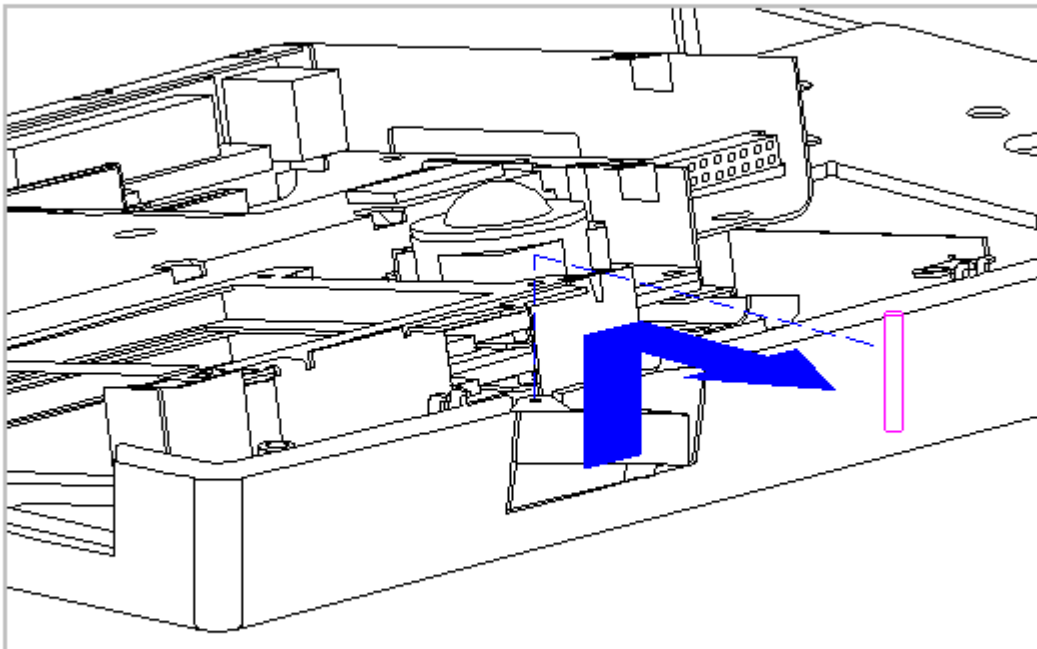

Figure 3-62. Remove the PC Card Ejection Lever Pin (All Models)
2. Remove the PC Card ejection lever pin from the system chassis (Figure 3-62).